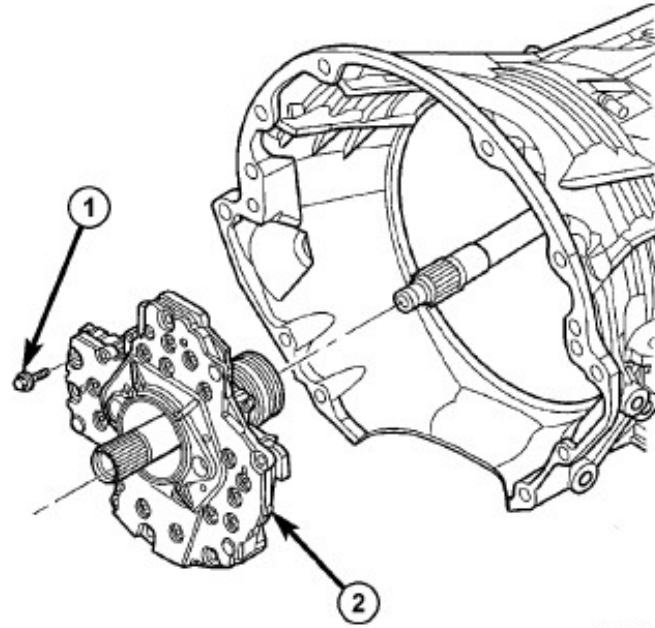

Fig. 8
15. Remove the bolts holding the oil pump into the transmission case Fig. 8.
16. Remove the oil pump. Hold inward on the input shaft to prevent pulling the input clutch assembly with the oil pump Fig. 8.